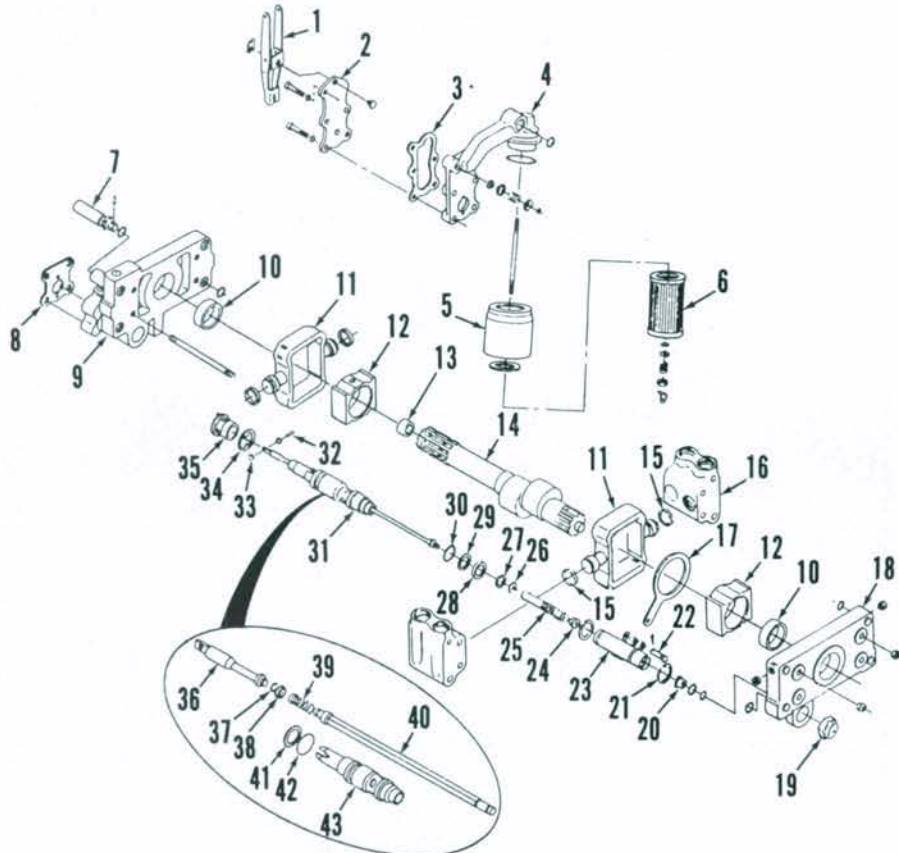

Fig. 231—Exploded view of hydraulic lift pump assembly. Safety relief valve (7) is used on models not equipped with pressure control valve.
**224. OVERHAUL.** To disassemble the removed hydraulic pump, disconnect the control lever pivot pin and remove control lever (1—Fig. 231) from valve rollers (33). Remove rollers and pin (32). Remove filter (6) and housing (5) from intake housing (4). Disconnect oscillator (23) from cam follower (17). Remove cap nut (19). Remove stud nuts, then
Inspect all parts and renew if excessively worn or damaged. The control valve spool and sleeve (31—Fig. 231) are serviced as a matched assembly. When renewing bushings (10) be sure end of bushing does not extend above machined surface of pump body and split in bushing is located at the top of body. Always renew all gaskets and “O” rings when reassembling.